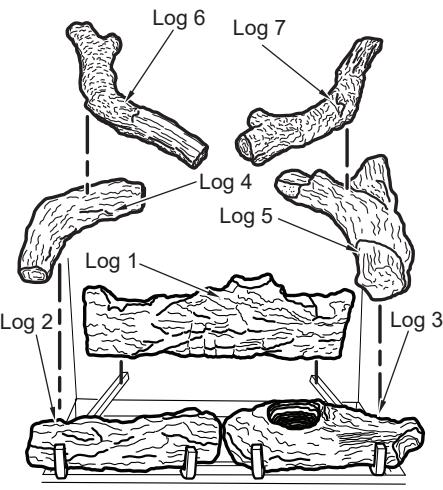

Figure 24
5. Place log #6 into the grooves on the left sides of log #2 and #4 (see Figure 24).
6. Place log #7 into the grooves on the right sides of log #3 and #5 (see Figure 24).